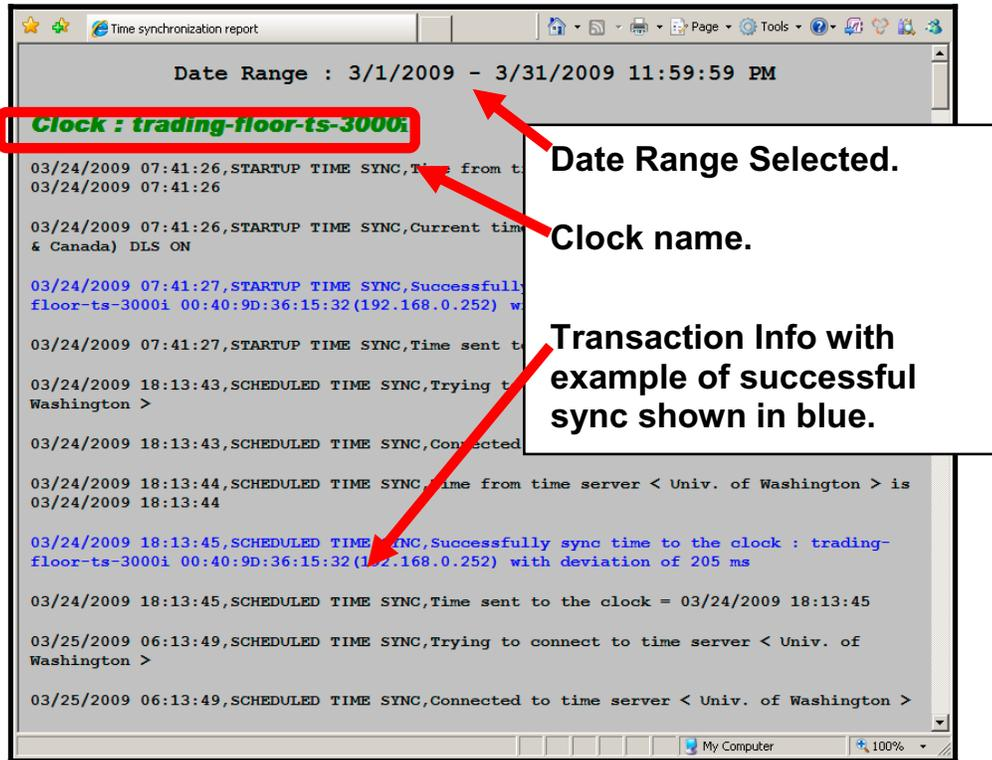

Figure 5-9: Example of Transaction Report Created with TS-3000i Utility
- This utility could be used to create a centralized transaction report for multiple TS-3000i clocks using all the transaction data or a selected data range. For example, create an HTML formatted report of transactions for March 1, 2009 through March 31, 2009 (see *Figure 5-9*).